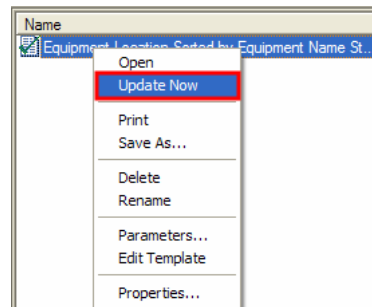

Figure 14: Update Now Command
- Right-click the report, and click **Update Now** to update the report to the model database, as shown in Figure 14.